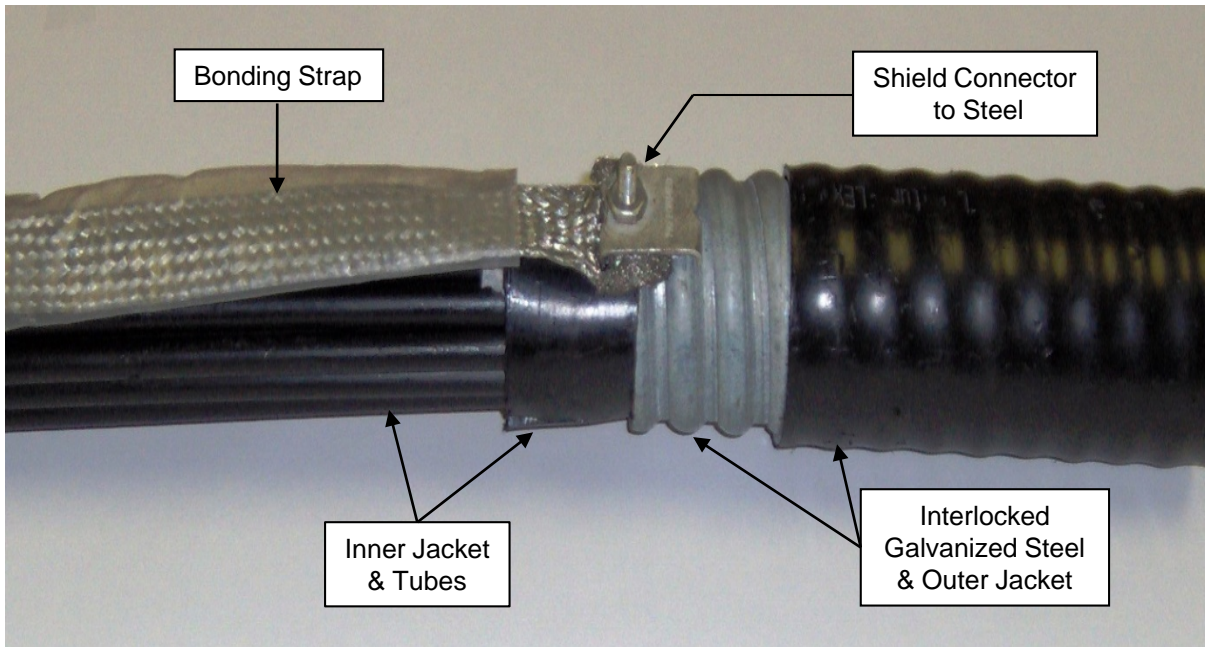

Figure 3
5.10 Install Bonding Strap on threaded stud and secure top plate of Shield Connector with nut provided. **See Fig. 3.**